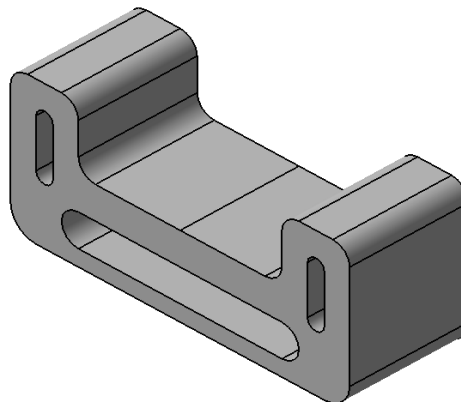
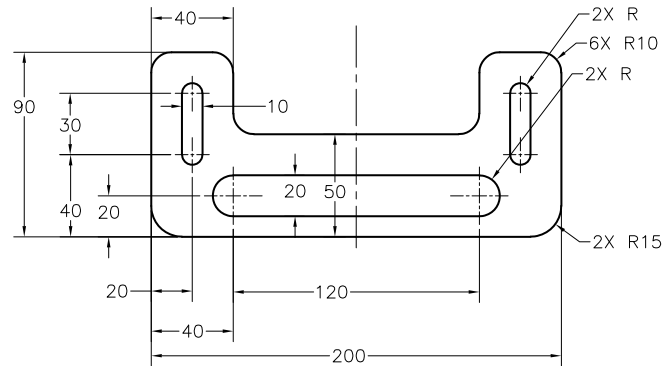

Figure 3-58 The model for Tutorial 3
Figure 3-59 The sketch for Tutorial 3
In this tutorial, you will draw the sketch of the model shown in Figure 3-58. The sketch is shown in Figure 3-59. Do not dimension the sketch. The solid model and its dimensions are given only for your reference.
11. Similarly, fillet other corners of the sketch with a radius value 10, refer to Figure 3-59.